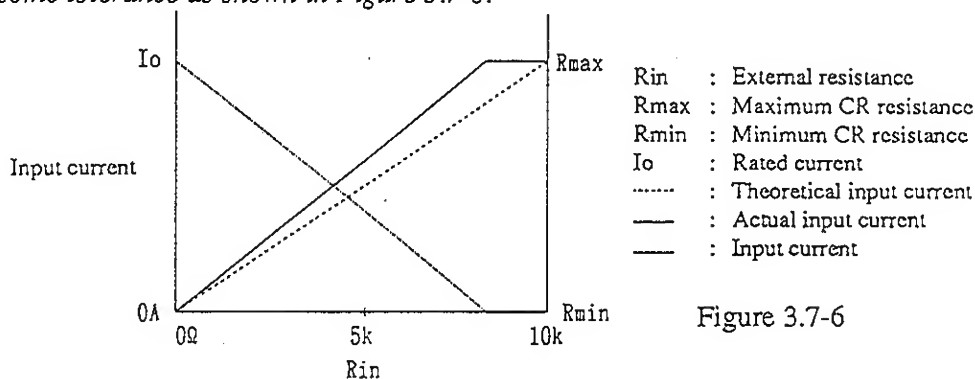

Figure 3.7-6
- The control circuit of the Electronic Load is designed so that the current ( $I_o$ ) becomes absolutely zero amperes when the external resistor ( $R_{in}$ ) is 10k $\Omega$ --this resistance with some tolerance as shown in Figure 3.7-6.